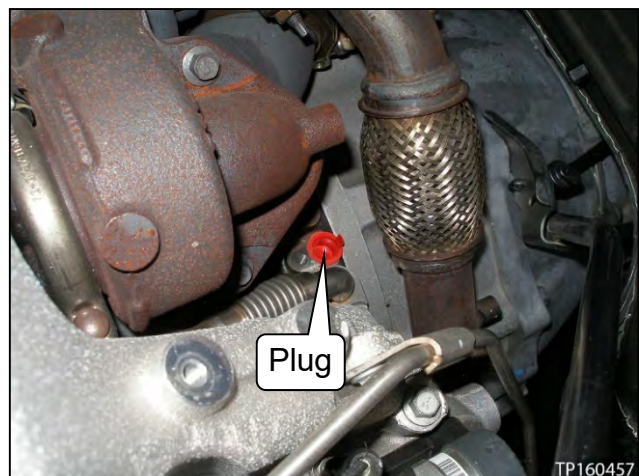

Figure 23
e. Install a plug into the oil dipstick tube's engine block hole (see Figure 23).